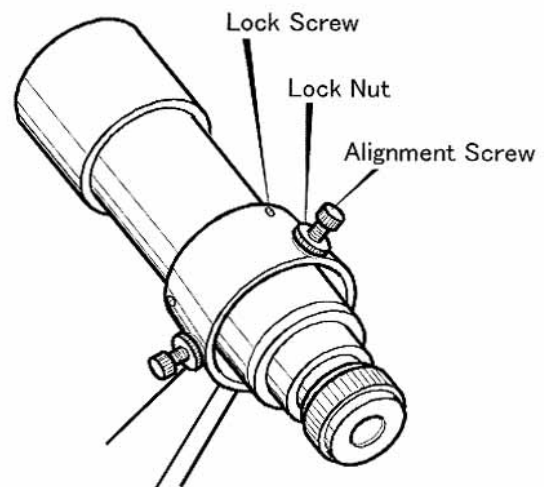

Fig.12
2. In order to move the crosshair in the direction of the arrow, first loosen screw (a) and tighten (push) the finder with screw (c). This procedure will move the crosshair in the desired direction. The top of the finder will move in the opposite direction and the object will move in the direction of the smaller arrow. Refer to Fig.12,13.